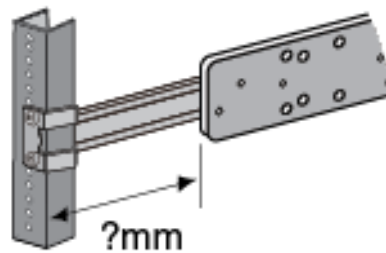

Figure 108. Measuring for the Extension Brackets
3. Measure the distance from the front of the equipment rack to the front of the inner rail. This will be the approximate length of the extension brackets. Refer to Figure 108.